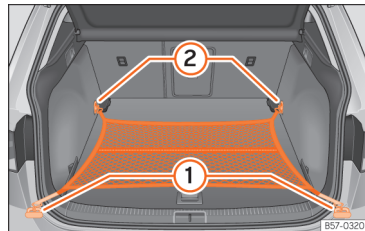

Fig. 172 In the boot: net bag hooked up at floor level.
- Secure the net hooks to the fastening rings >>> Fig. 172 ① and ② >>> ⚠. The bag zip should be facing upwards.